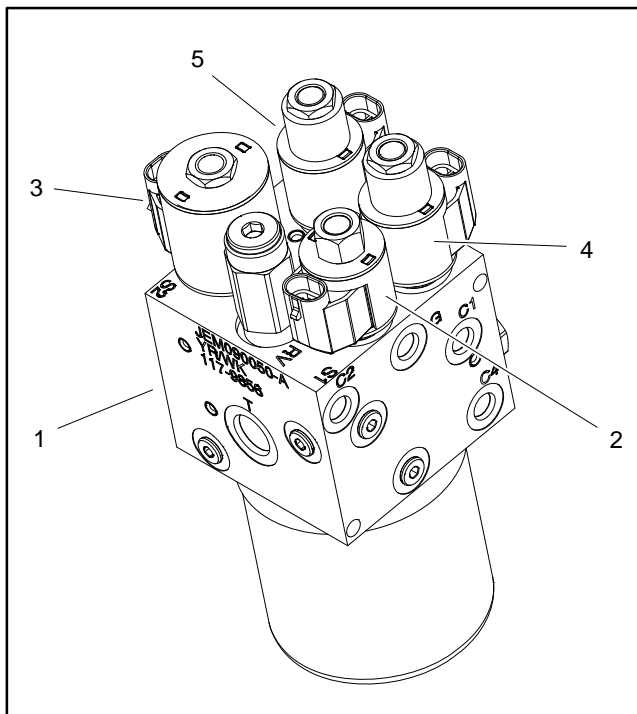

Figure 72
3. Disconnect harness electrical connector from hydraulic solenoid valve coil that is to be tested (Fig. 72 or 73).